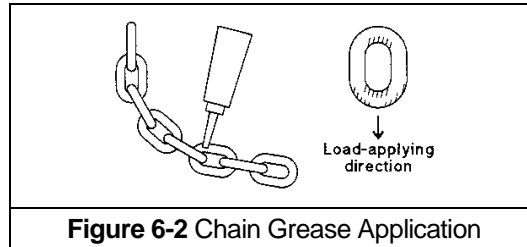

Figure 6-2 Chain Grease Application
- Apply Harrington Hoist, Inc. lubricating grease (Part No. ER2CS1951) or an equivalent to industrial general lithium grease, NLGI No. 0, to the bearing surfaces of the load chain links as indicated by the shaded areas in Figure 6-2. Also apply the grease to the areas of the load chain (shaded areas in Figure 6-2) that contact the load sheave. Insure that the grease is applied to the contact areas in the load sheave pockets.